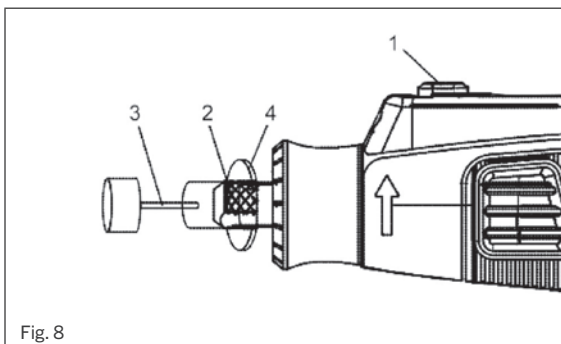

Fig. 8
2. Depress the spindle lock button (1) and slowly turn the collet nut (2) until the spindle lock button locks the spindle (Fig. 8).
4. Insert the accessory shank (3) into the collet.